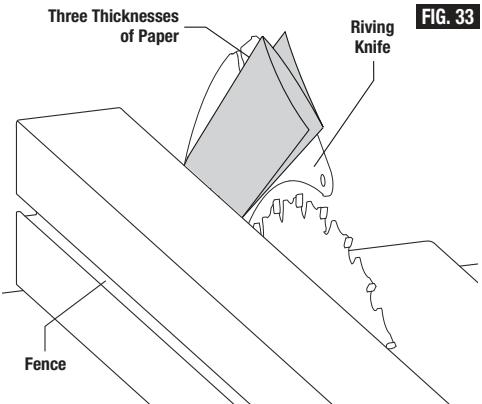

FIG. 33
4. Using the rip fence as a guide, check the riving knife alignment with the plane of the saw blade. Since the riving knife is thinner by approximately three thicknesses of paper on each side, than the width of the blade's KERF you must make a temporary paper "spacing gauge". Make two folds in a small piece (6" X 6") of ordinary newspaper to make three thicknesses. Place the paper spacing gauge between the riving knife and the rip fence (Fig. 33).